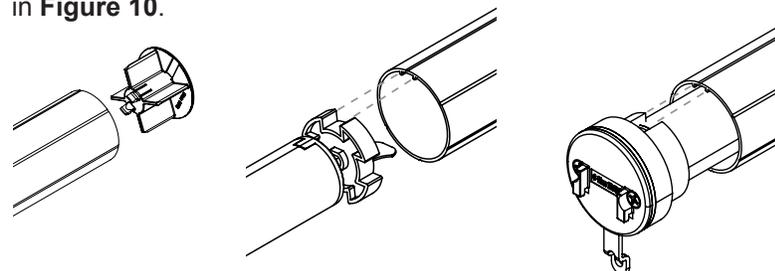

Figure 10. Insert the End Plug and Motor Assembly
Step 8. Insert the end plug (and tube adapter where required) and the motor assembly into the roller tube. Make sure to line up the tabs on the tube with channels on the driver and crown as shown in **Figure 10**.